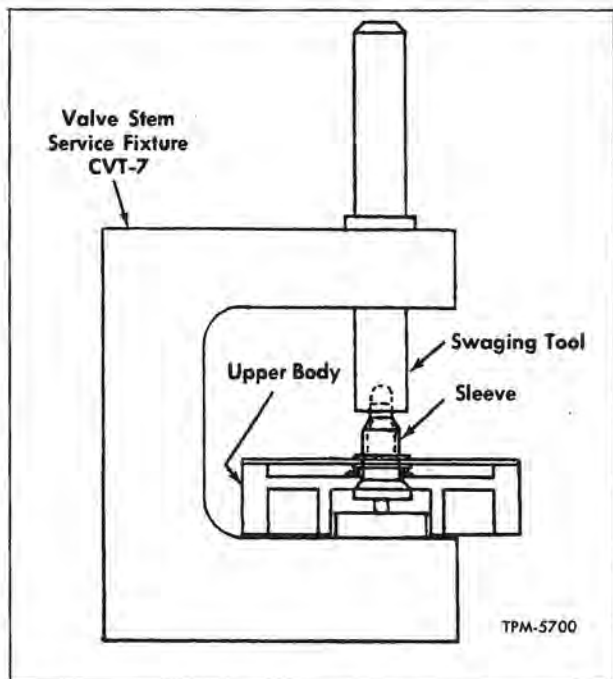

Figure 9—Installing Valve Stem Sleeve
1. Remove any excess rubber from new stem. Install stem in cover side of upper body (5). Place spring over stem, with large diameter against upper body (5). Install brass washer, diaphragm (7), and other brass washer on stem. Install sleeve, large end first, over end of stem and swage as follows:
a. Hold assembly together and carefully position large end of stem on anvil of valve stem service fixture CVT-7 as shown in figure 9.
b. Place swaging tool over small end of stem and sleeve. Lift edge of diaphragm (7) and check position of spring. Edge of spring should not prevent parts from fitting together squarely on stem.